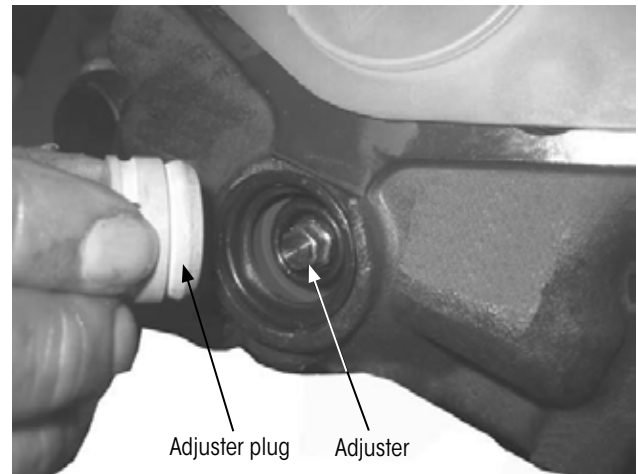

Figure 83: Removing adjuster plug
1. **Remove** the adjuster plug (Figure 83).